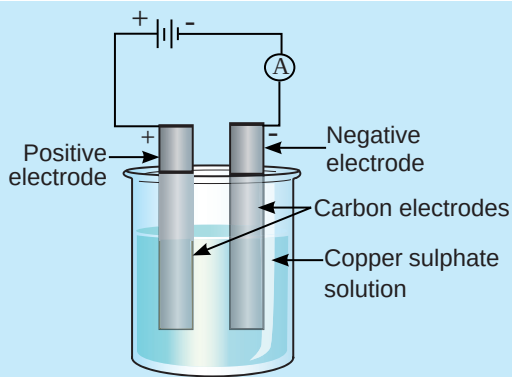

Figure 10.2
- Set up apparatus as shown in the figure 10.2 and pass electricity through the copper sulphate solution.